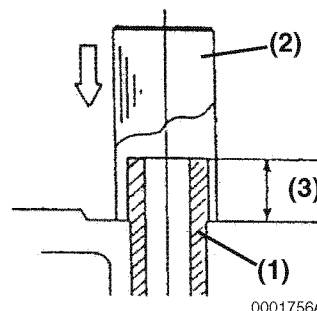

Figure 6-66
3. Finish installing the valve guides (Figure 6-66, (1)) into the cylinder head to the proper height (Figure 6-66, (3)) using the valve guide installation tool (Figure 6-66, (2)). See *Intake / Exhaust Valve and Guide* on page 6-5.